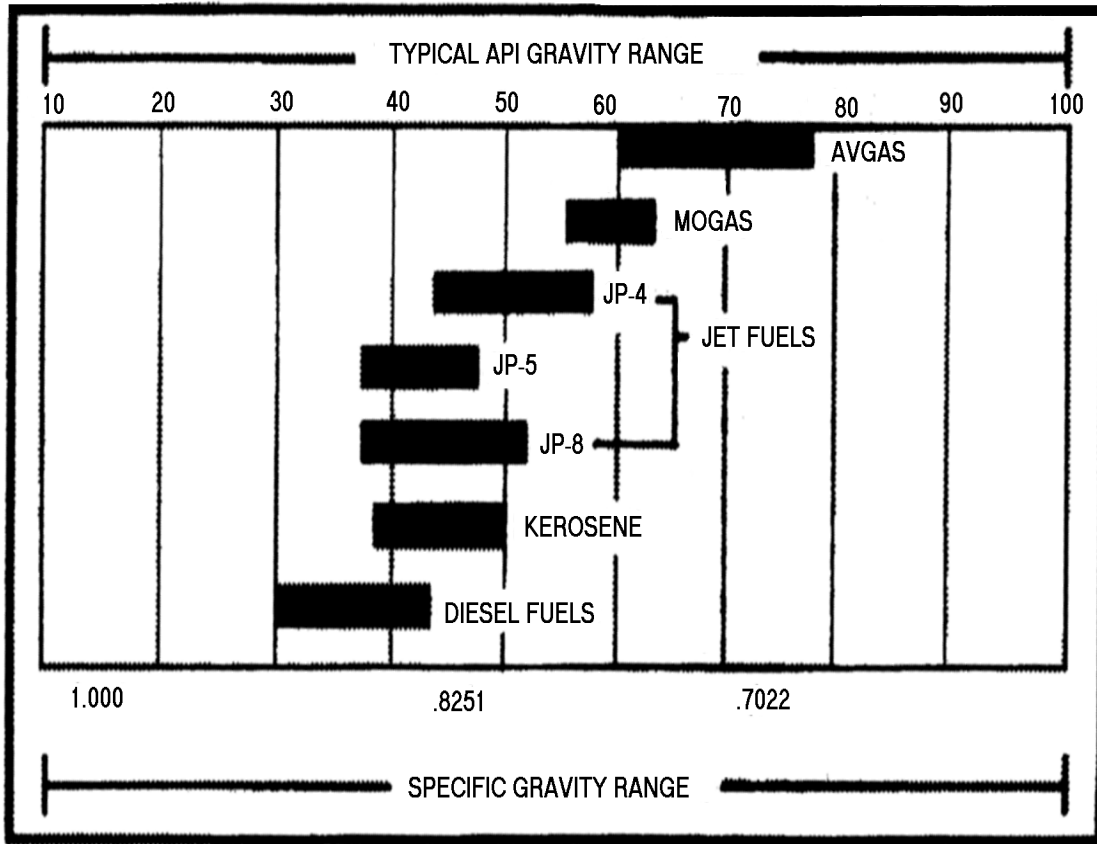

Figure I-1. Typical API gravity ranges (corrected to 60 degrees)
- Step 6. Use the hydrometer with the range closest to the API gravity range of the fuel you think you are testing. See Figure I-1. For example, if you think the fuel is diesel and the API gravity range of diesel is between 30.0 and 42.0, use the third or fourth hydrometer from the equipment list.
- Step 1. Compare the corrected API gravity with the API gravity ranges shown in Figure I-1. If the corrected API gravity of the product is lower or higher than expected, it indicates possible commingling with either heavier or lighter products.